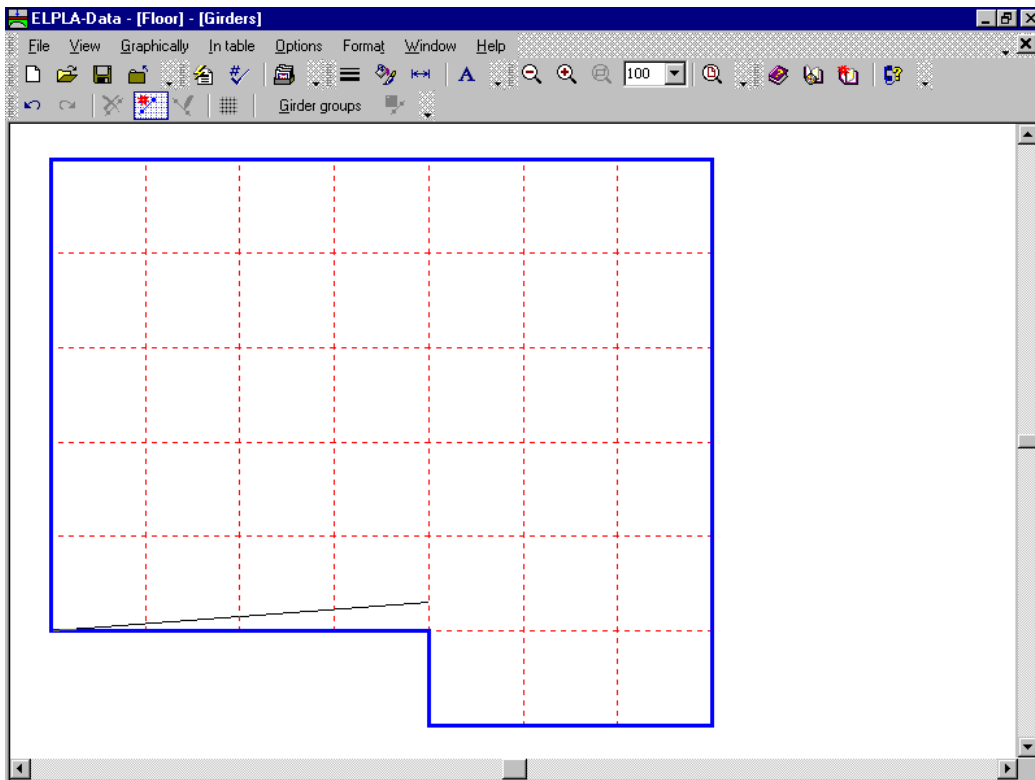
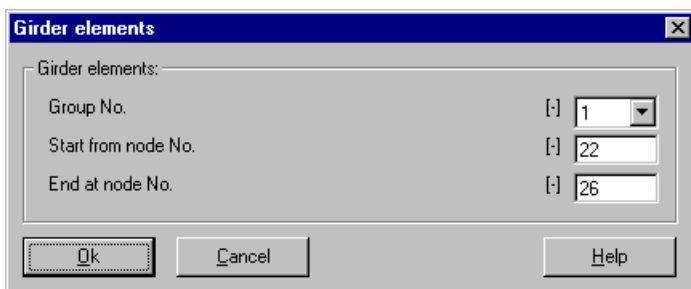

Figure 2-17 Add girder by mouse
Figure 2-18 "Girder elements" dialog box
- Click the left mouse button on the start node of the first girder. Then drag the mouse until the end node of that girder (Figure 2-17) and click on the end node. The "Girder elements" dialog box in Figure 2-18 appears